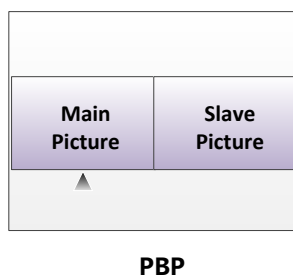

Figure 5.1-15 PBP Mode
- In PBP mode, the relationship of the main picture and the slave picture is as shown Figure 5.1-15:
The current picture is labeled by a triangle, as shown in Figure 5.1-15, at the bottom center of the picture. You can select the current picture by the **WIN SELECT** command assigned to a function key. The WFM frame of the main picture displays at the left bottom corner of the screen, and the WFM frame of the slave picture displays at the bottom right corner of the screen. Meantime, if Audio Meter was shown up, it could display at the top position of the screen, just at the top left corner or at the top right corner, thus to avoid colliding with the WFM.